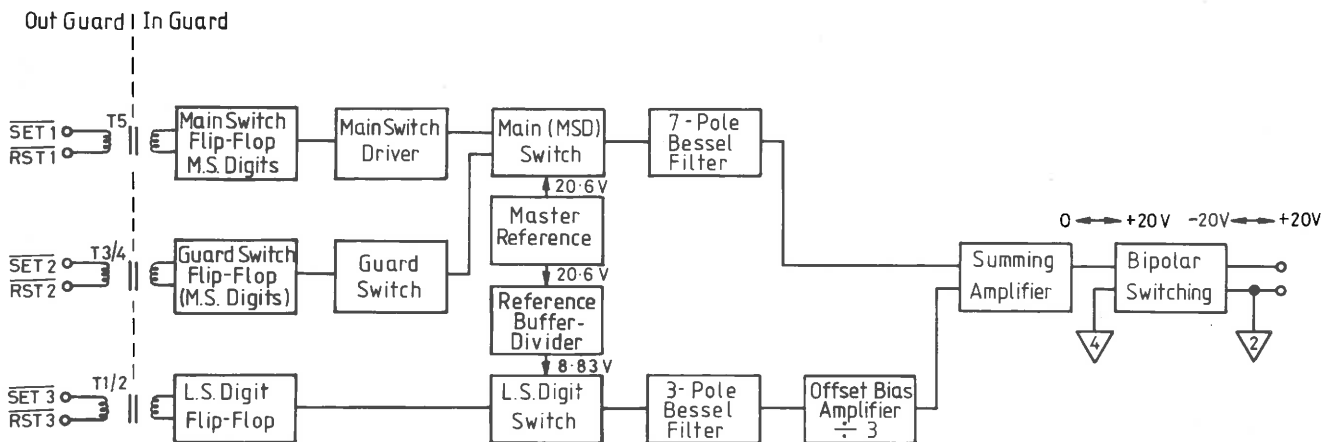

FIG. 4.23 PRECISION DIVIDER IN-GUARD CIRCUITRY – SIMPLIFIED BLOCK DIAGRAM
4.6.3 References and Reference Divider (Circuit Diagram No. 430444 and Fig. 4.23)